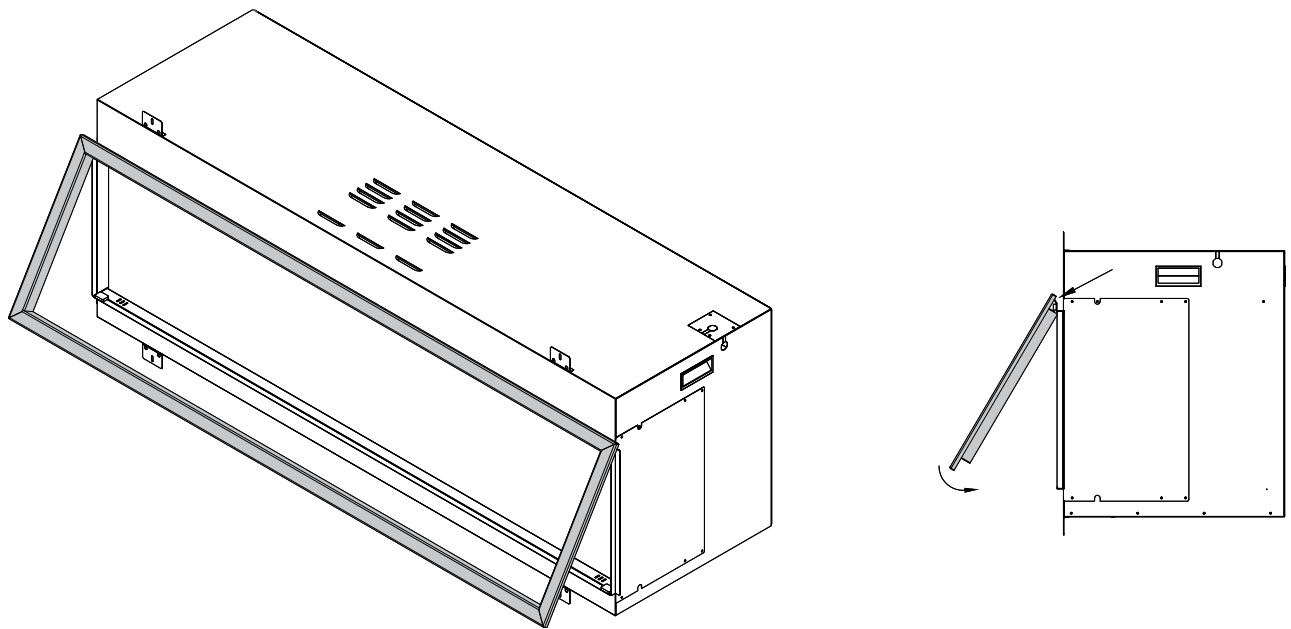

Figure 2.13 - Surround Installation
5. Install the rectangle surround by hanging the top of the surround on the magnetic hanging brackets as shown in Figure 2.13. The rectangle surround has a top and bottom. You can tell the difference due to the larger (deeper) flange that goes back towards the unit. Make sure the larger flange is on the bottom of the viewing area. If the larger flange is at the top it may cover the heater vents.